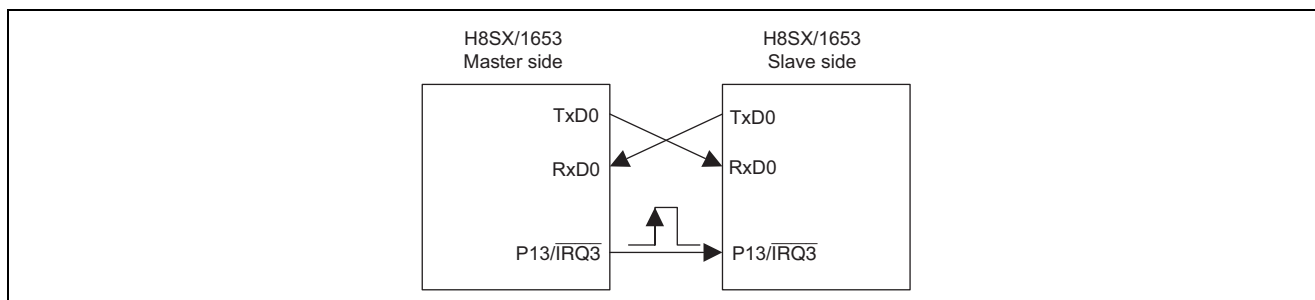

Figure 1 Asynchronous Serial Transmission and Reception
- An example of connection for this sample task is shown in figure 1.